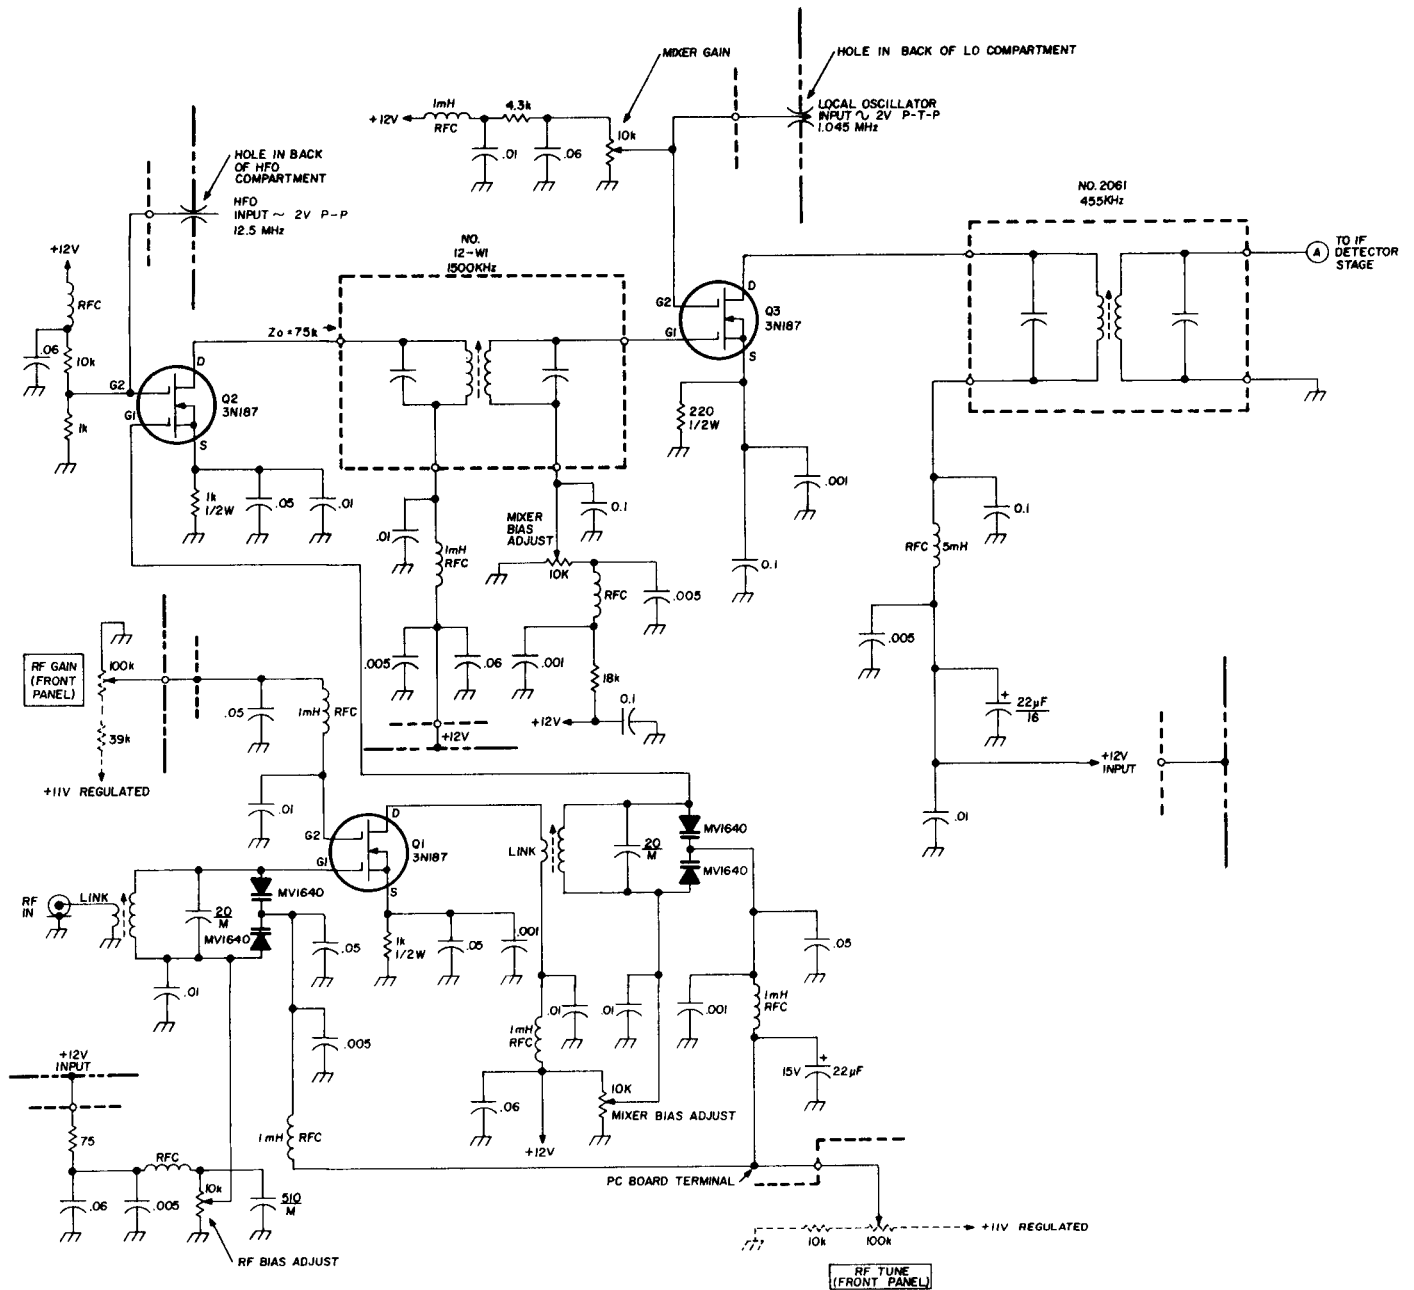

fig. 2. Rf and mixer schematic.
**Frontend.** Fig. 2 illustrates the frontend design. Moderately high Q coils are used in the rf and first mixer input. High Q coils in the rf section provide excellent signal-to-noise ratios, good selectivity, and high initial gain. Back-to-back varactor diodes are used for tuning the rf LC circuits by front-panel potentiometer control of the varactor diode bias voltage.
From fig. 2 we see that the first i-f is 1500 kHz, and the second conversion i-f is 455 kHz. As shown in fig. 2, the gates of the second mixer stage incorporate bias adjustment to optimize both device gain and signal-to-noise ratios. Gate biasing for rf and mixer may not be immediately apparent from fig. 2. Fig. 3 shows how the mosfets in the rf and mixer are biased and the method used to compensate for tolerances in the LC circuits to permit gang tuning of both stages.
Referring to **fig. 2**, the mixer gain control gate (G2) is at a fixed-voltage point and the rf stage uses a variable resistor to control the rf gain. One disadvantage of this scheme is that, as we vary the voltage
Any errors introduced into the local-oscillator center frequency can be compensated by shifting the HFO frequency and tweaking the 1.5-MHz i-f transformer (fig. 2).